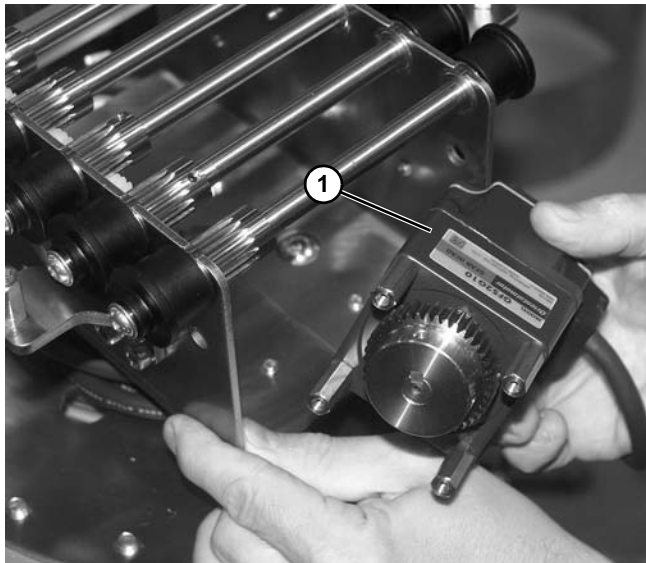

Figure 149
6. Remove drive motor (**Figure 149, item 1**) from assembly.